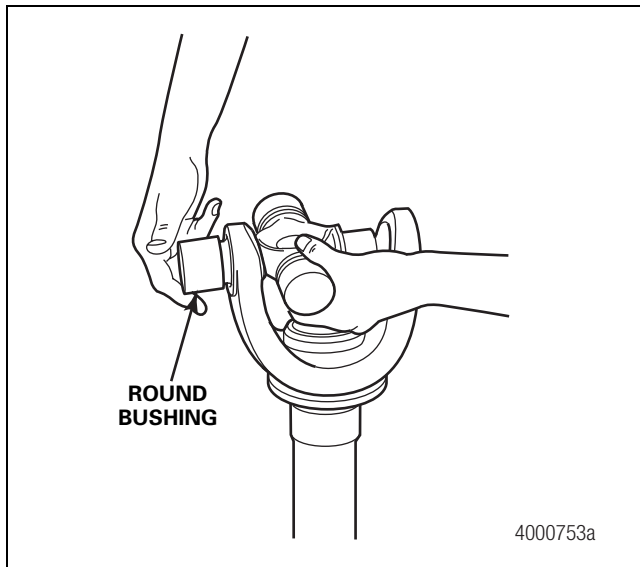

Figure 6.1
1. Slide the first bushing onto the trunnion. Figure 6.1.